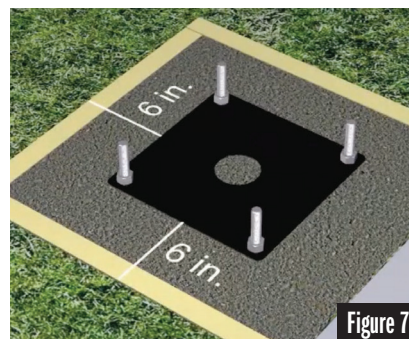

Figure 7
- Measure the distance from the edge of the bolt plate to the edge of the frame to ensure it is centered. See Figure 7.
- Align the Extension Arm with the Backboard and secure the hardware in the same order. See Figure 7.